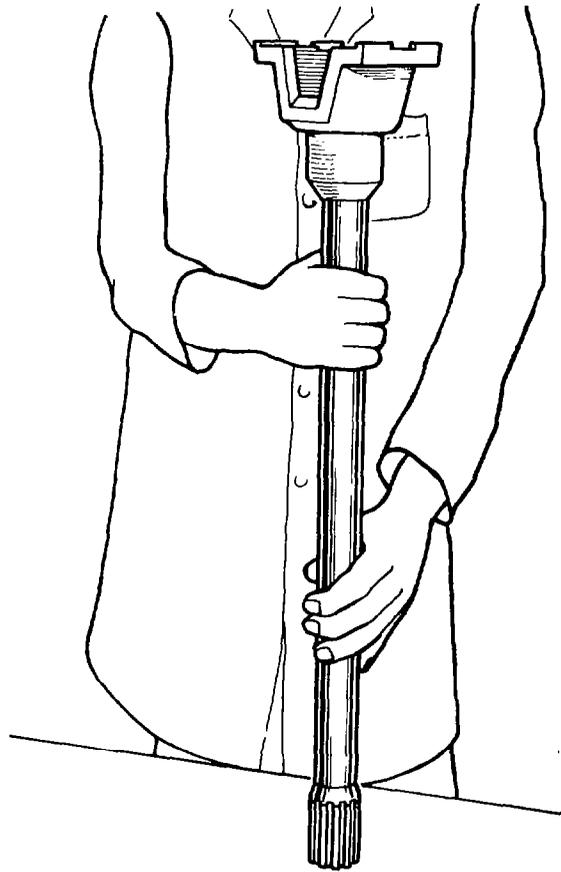

Fig. 369 — Driving Split Ring into Position
- j. The universal joint yoke for the inner drive-shaft contains a split ring at the other end of the splined bore. Position the yoke on the inner drive-shaft then with a block of wood directly beneath the shaft, raise the shaft approximately half a metre and allow it to fall vertically onto the block. This action should drive the ring into position on the end of the drive-shaft; repeat as necessary until the ring is seated on the shaft (see fig. 369).